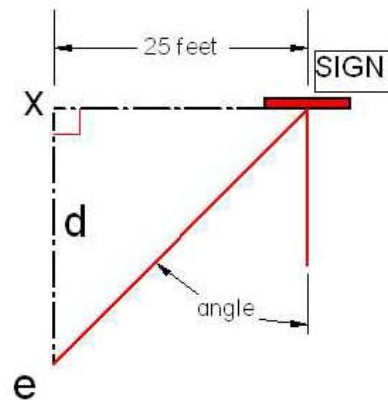

Figure 2.
- **Angularity** - Starting from a point “e” which is 2,640 feet from the front of the sign and 25 feet from the center, move towards the sign and record the distance “d” where the message or arrow mode was illegible (Figure 2). Calculate the angle shown in Figure 2.
In addition, the legibility angle, similar to Figure 2, was calculated using the legibility distance.